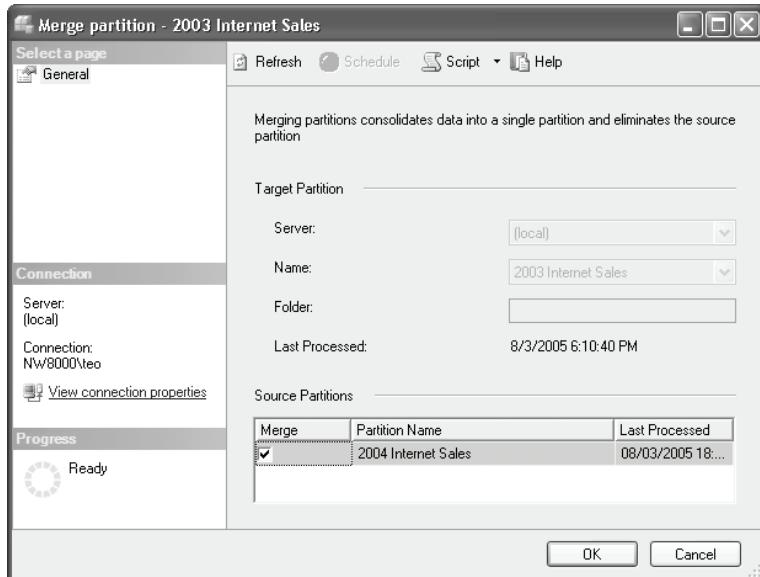

Figure 14.24 You can merge two partitions into one with Management Studio.
3. In the Merge Partitions dialog (Figure 14.24), select the 2004 Internet Sales partition and choose OK. Process the Internet Sales Partition.